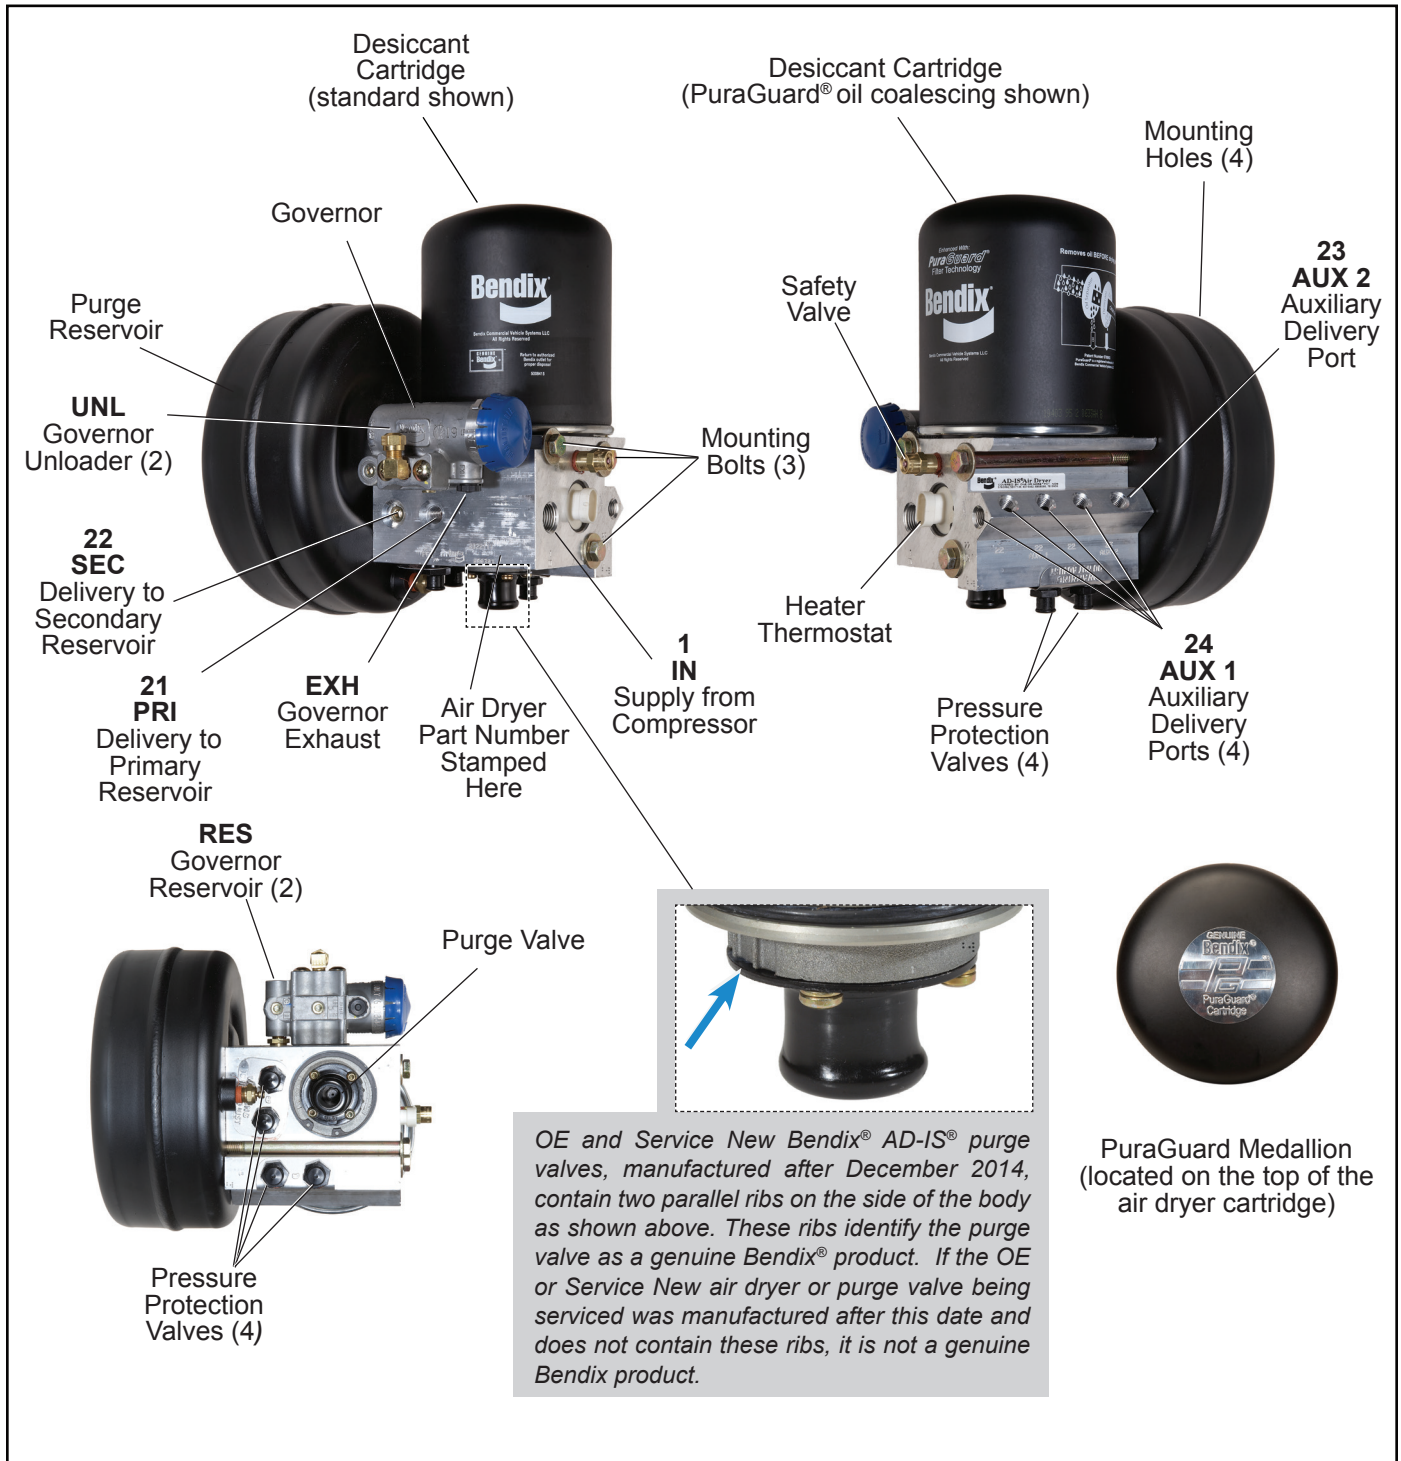

Figure 1 - Bendix® AD-IS® & AD-IS® PuraGuard® Oil Coalescing Air Dryer & Reservoir Systems
The Bendix AD-IS PuraGuard oil coalescing air dryer has an identical appearance to the standard Bendix AD-IS air dryer with one exception— it contains a coalescing media at the inlet of the desiccant bed and an identifying medallion on the top (See *Figure 1*). The coalescing media provides a higher level of oil removal over the standard AD-IS air dryer. The AD-IS PuraGuard oil coalescing air dryer has all of the same functions as the standard AD-IS air dryer and is used in applications where lower oil concentration levels are required.
2. Check the AD-IS air dryer and purge reservoir bolts for tightness. See Figure 1. Re-torque the three air dryer bolts to 360-420 in-lbs and the four purge reservoir bolts to 300-360 in-lbs.